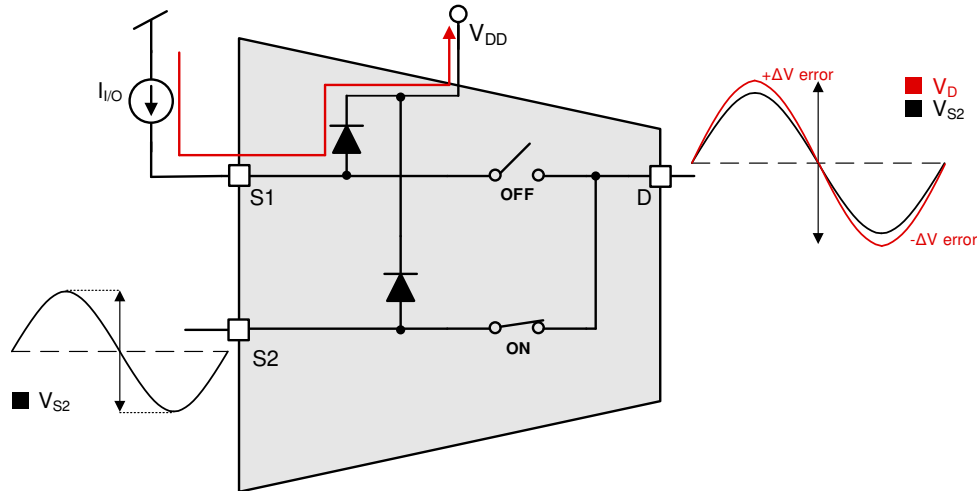

Figure 8-4. Injected Current Impact on  $R_{ON}$
**Change in  $R_{ON}$  due to Current Injection:** because the ON resistance of the enabled FET switch is impacted by the change in the supply rail, when the drain pin voltage exceeds the supply voltage by more than a  $V_T$ , an error in the output signal voltage can be expected. This undesired change in the output can cause issues related to false trigger events and incorrect measurement readings, potentially compromising the accuracy and reliability of the system. As shown in Figure 8-4, S2 is the enabled signal path that is conducting a signal from S2 pin to D pin. Because there is an injected current at the disabled S1 pin, the voltage at that pin increases above the supply voltage and the ESD protection diode is forward biased, shifting the power supply rail. This shift in supply voltage alters the  $R_{ON}$  of the internal FET switches, causing a  $\Delta V$  error on the output at the D pin.